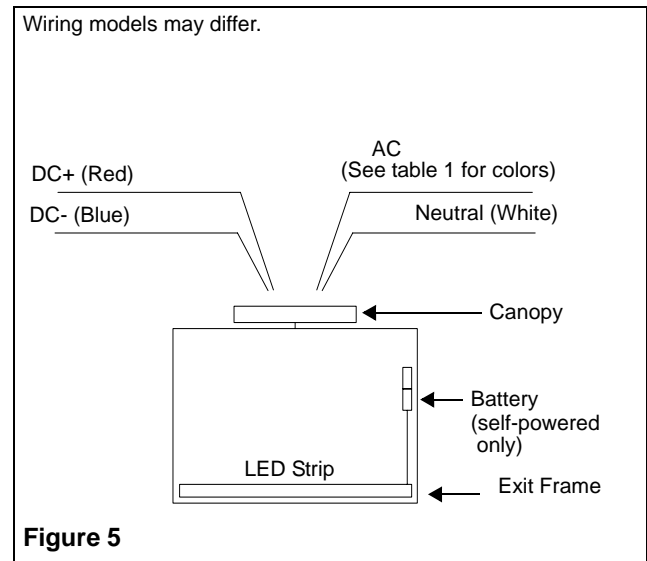

Figure 5
6. Make the proper connections. On the standard universal model, our unit accepts an input voltage of 120 VAC to 347 VAC (see fig. 5).
Refer to fig. 5 for AC & DC wiring.